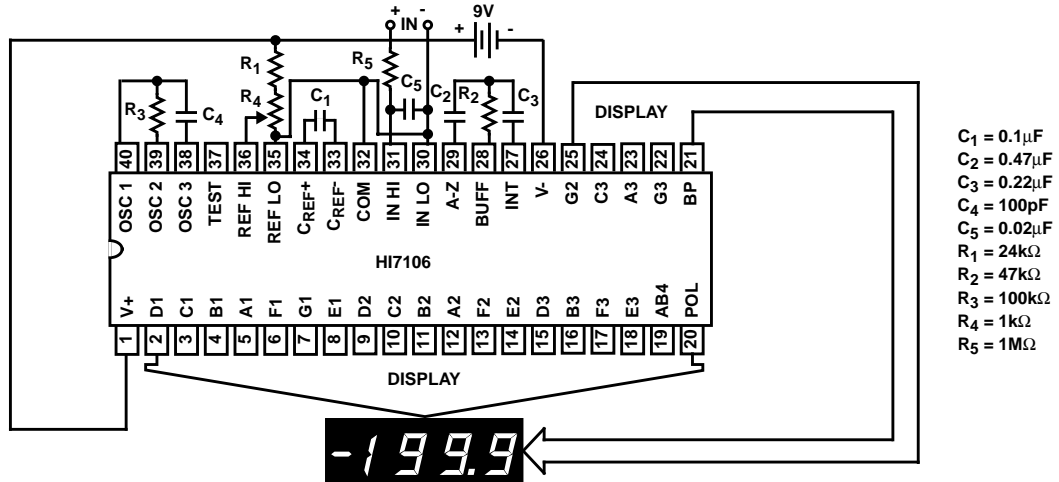

FIGURE 1. HI7106 TEST CIRCUIT AND TYPICAL APPLICATION WITH LCD DISPLAY COMPONENTS SELECTED FOR 200mV FULL SCALE
4. Unless otherwise noted, specifications apply to both the HI7106 and ICL7107 at $T_A = 25^\circ\text{C}$, $f_{\text{CLOCK}} = 48\text{kHz}$. HI7106 is tested in the circuit of Figure 1.